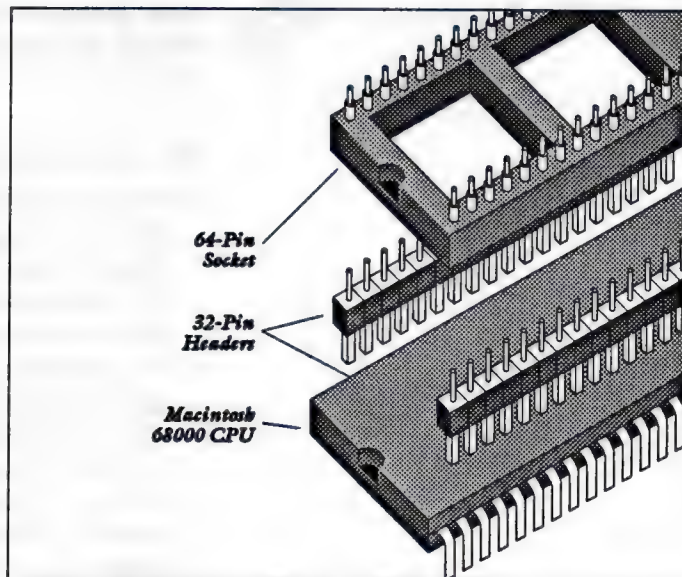

Figure 10 : Exploded view of the pin mount
2. You must solder header strips onto the pins of the Macintosh CPU. Two 32-pin header strips are supplied, mounted under a 64-pin socket as shown in Figure 10. The 64-pin socket is only used as a carrier for the header strips to simplify the soldering procedure — once you are done, discard the socket.